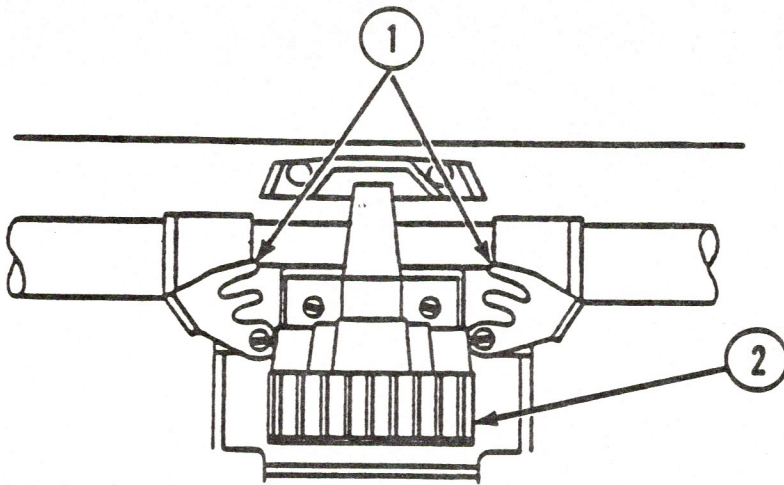

FIGURE 1
(See Figure 1, #1.)
5. Pull up the dot head. (See Figure 1, #2.) If you have trouble getting it out, pull the paper roller shaft forward. Ease the dot head around the roller shaft.